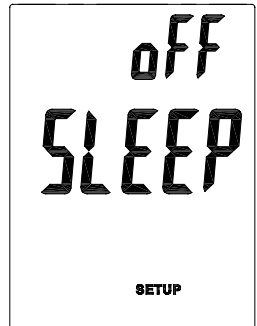

Fig. 12
3. Use the **▲/Unit** or **Unit/▼** button to toggle between "On" (sleep mode on) or "Off" (sleep mode off) (Fig. 12).